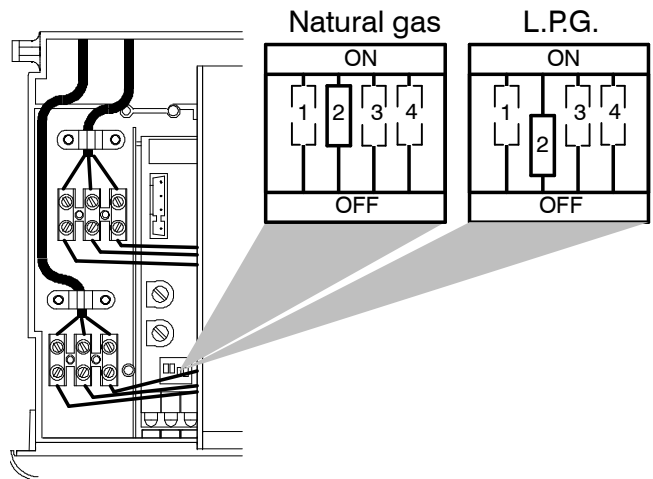

fig. 8.2
- 9 set correctly the dip-switch "2" to the correct position (fig. 8.2) in accordance with the following table.